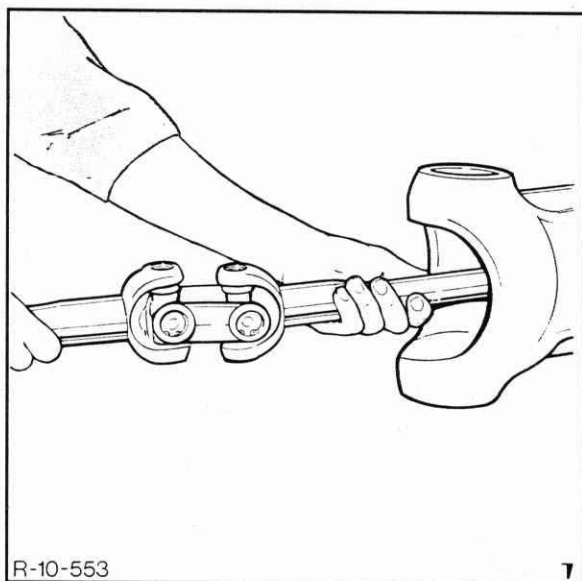

Figure 7-87
6. Very carefully pull the axle shaft from the axle casing, guiding it through the outer oil seal, Figure 7-87.